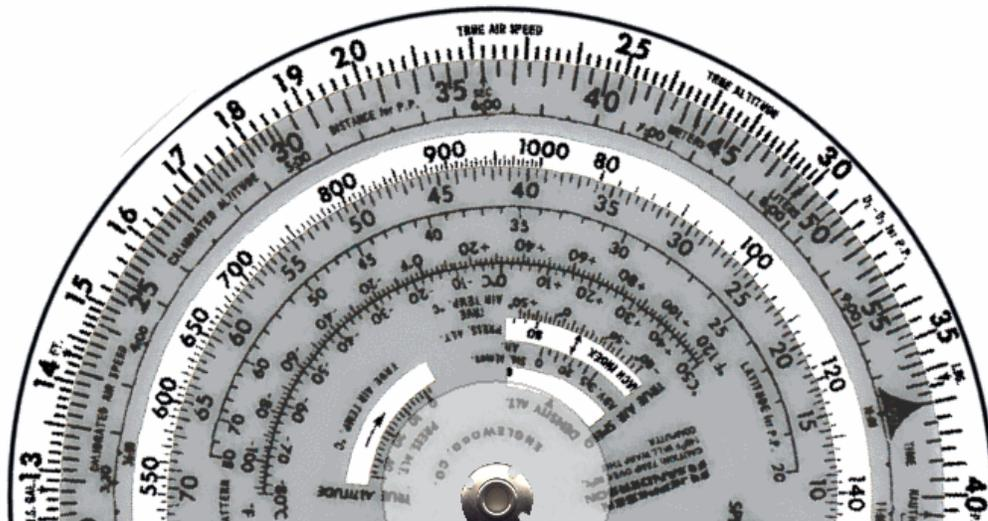

Figure 4.3-13 Minutes to Seconds
Figure 4.3-13. Place the rate index (inner scale) under the number of minutes on the outer (white) scale and read the number of seconds opposite the "SEC" arrow on the same scale.
2. On the DISTANCE (outer) scale, opposite the "SEC" arrow on the TIME (inner) scale, read the number of seconds (Figure 4.3-13).